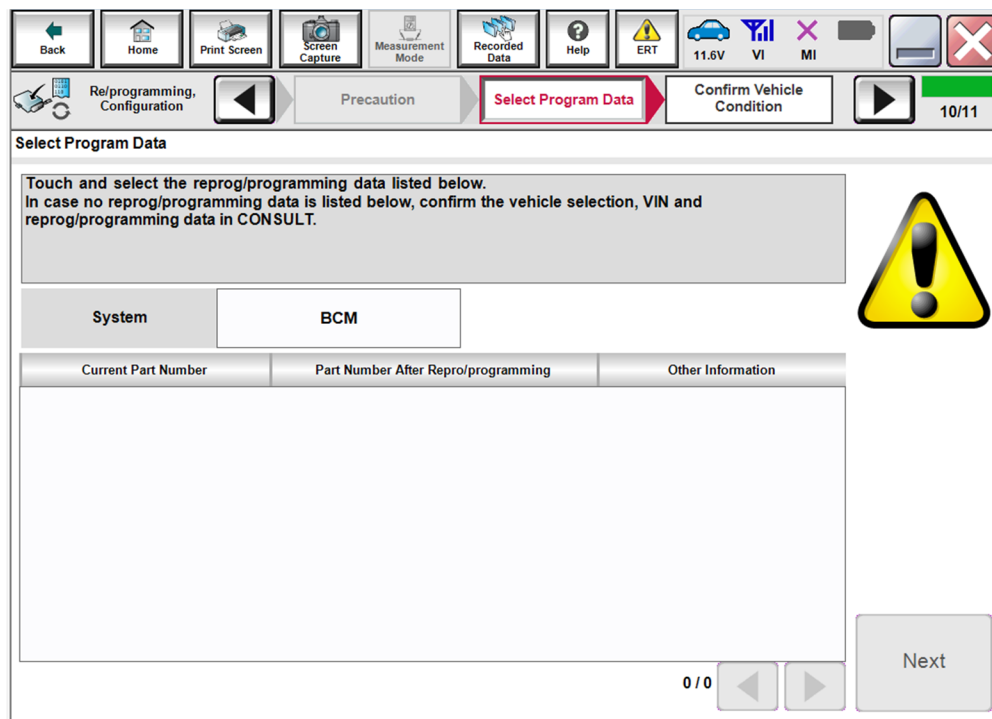

Figure 13
- **NOTE:** If the screen in Figure 13 is shown, the Service Procedure is complete. Skip to step 40 on page 25.